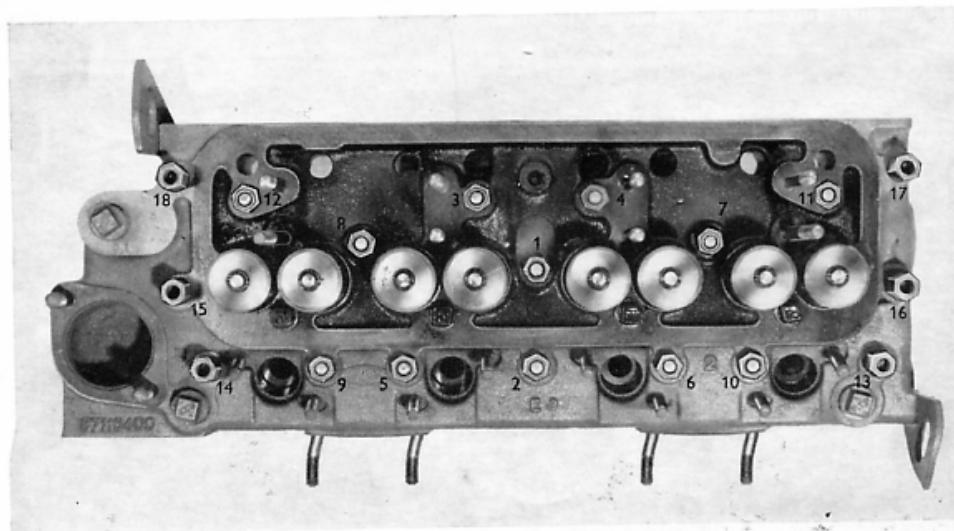

Fig. G.20.
3. Lubricate cylinder head studs and nuts, then tighten nuts progressively in three stages in the sequence shown in Fig. G.20. to the torque given on page B.2. This final torque tightening stage should be repeated.
down and the cylinder head nuts again tightened to the correct torque in the sequence shown in Fig. G.20. (Refer to Note below).
It is essential that the cylinder head nuts are re-torqued to 60 lbf ft (8.3 kgf m) after the first 15-30 hours with the engine hot and in the sequence shown in Fig. G.20.